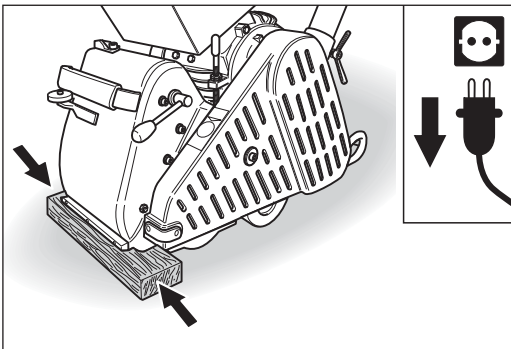

Fig. 37 Transport or storage of the machine on a flat piece of wood.
- During transport or storage, place a flat piece of wood between the floor surface and machine housing (Fig. 37)! This prevents the housing from slipping and stops the drum being in direct contact with the floor!